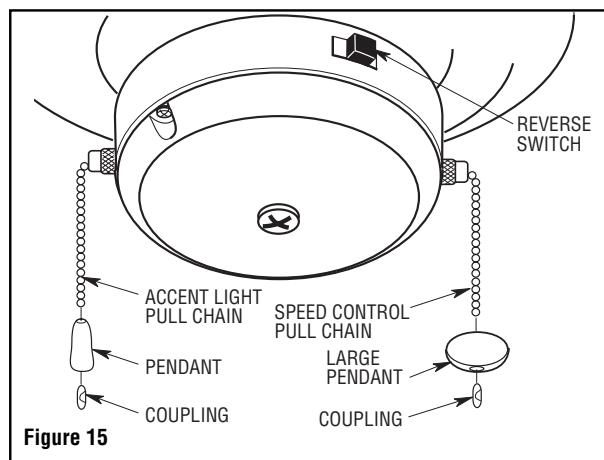

Figure 15
2. Slide the large pendant onto the speed control pull chain, secure by connecting the coupling to the chain. Slide the pendant onto the accent light pull chain, secure by connecting the coupling to the chain. (Figure 15).
7. If airflow is desired in the opposite direction, turn the fan off and wait for the blades to stop turning. Then slide the reversing switch, located on switch cup, to the opposite position (Figure 15) and turn the fan on again. The blades will turn in the opposite direction and reverse the airflow.